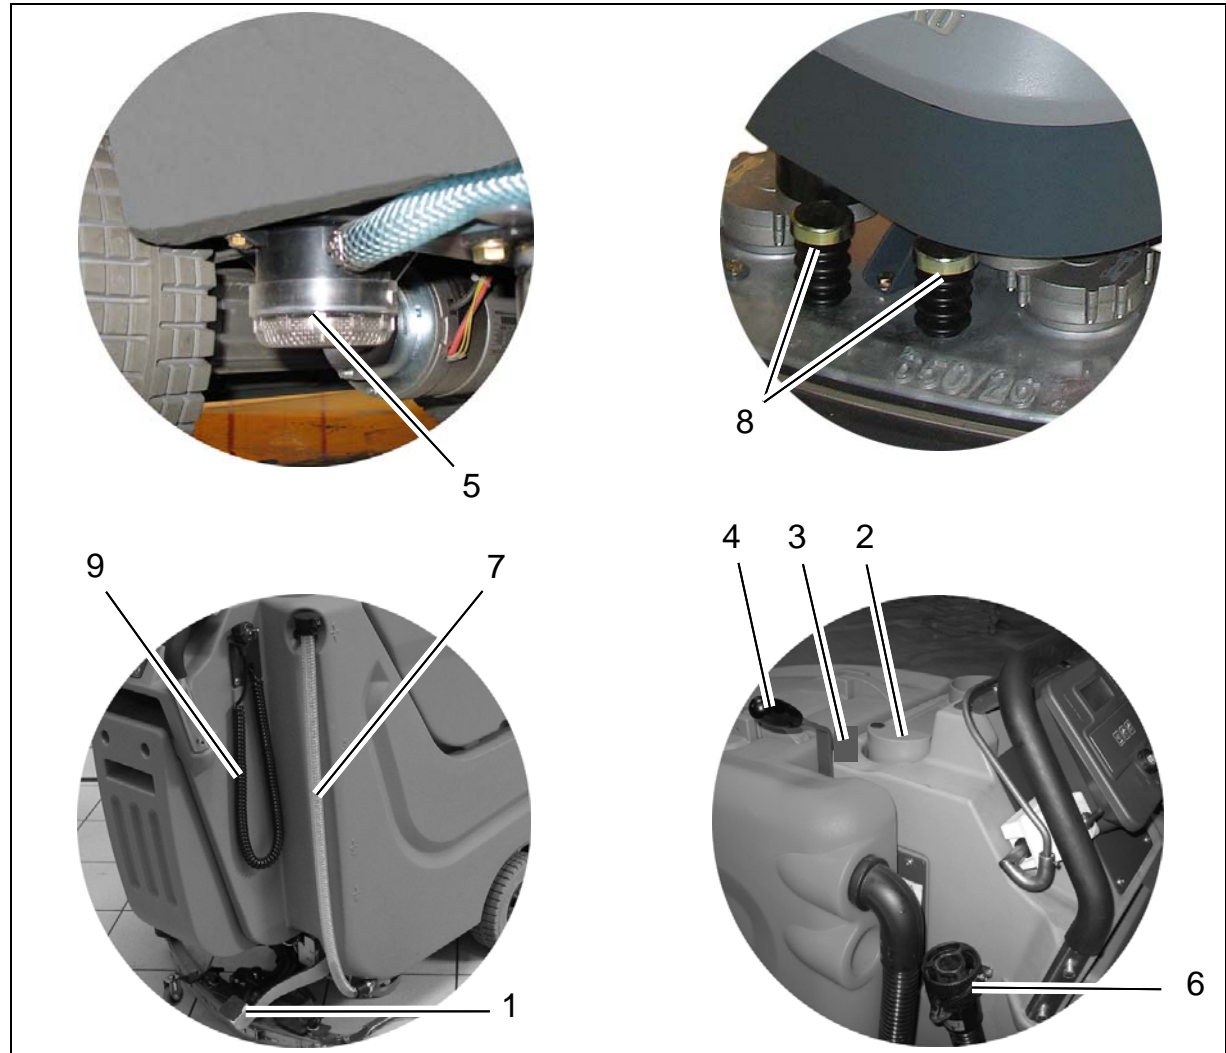

Fig.5
2. Use lever (Fig5/4) to lower squeegee. Vacuum motor switches on automatically.
3. Use solution control (Fig5/3) to set the desired flow rate.
4. Use pedal (Fig5/1) to lower brush deck. The solution supply switches on automatically.
Brush deck pedal(Fig. 5/1)
Opening of solution tank (Fig. 5/2)
Solution control (Fig. 5/3)
Squeegee lever (Fig. 5/4)
Solution tank filter (Fig. 5/5)
Recovery tank drain hose (Fig. 5/6)
Solution tank drain hose (Fig. 5/7)
Brush ejector (Fig. 5/8)
Power connection (Fig. 5/9)